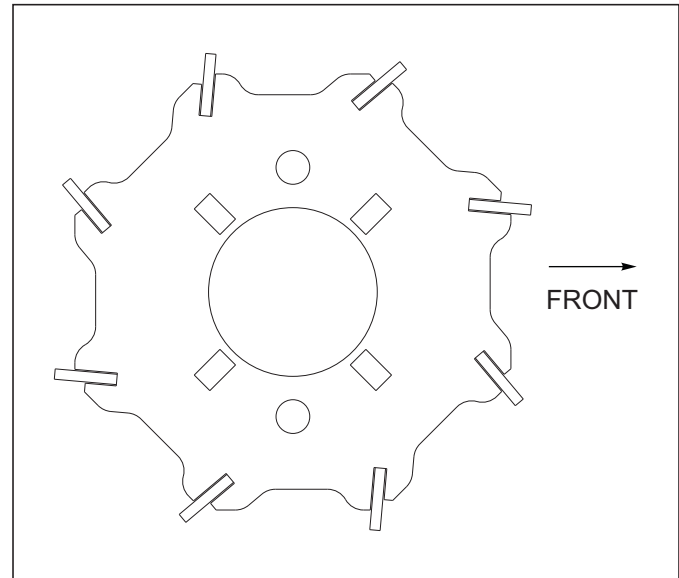

Figure 4-14: Flat Reel
5. The 12" diameter reel consists of nine 3/4" diameter round bars with a chevron shape for smoother rotation. The reels have no inner shaft to reduce plugging in wetter conditions. The reels operate independently of the 3 row spike with two spring loaded arms per reel to maintain consistent down pressure. A 12" diameter spiral wound reel with 1/4 x 1-1/2 angled blades is also available. The blades on flat bar reels are angled for more aggressive action. Install the reels as shown See Figure 4-14.